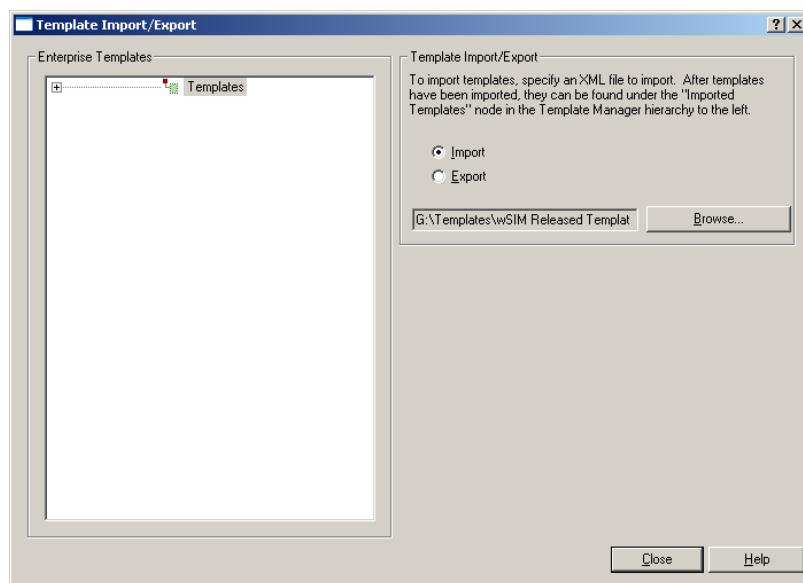

Figure 4-1: wSIM System 1® Template Installation
8. Select wSIM Released Templates, see Figure 4-1.